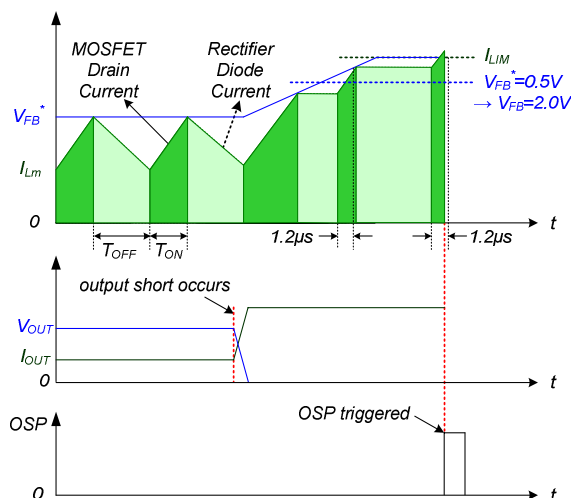

Figure 22. Output-Short Protection
4.3. Output-Short Protection (OSP): If the output is shorted, steep current with extremely high di/dt can flow through the SenseFET during the minimum turn-on time. Such a steep current brings high-voltage stress on the drain of the SenseFET when turned off. To protect the device from this abnormal condition, OSP is included. It is comprised of detecting V_{FB} and SenseFET turn-on time. When the V_{FB} is higher than 2V and the SenseFET turn-on time is lower than $1.2\mu s$, the FSGM0765R recognizes this condition as an abnormal error and shuts down PWM switching until V_{CC} reaches V_{START} again. An abnormal condition output short is shown in Figure 22.